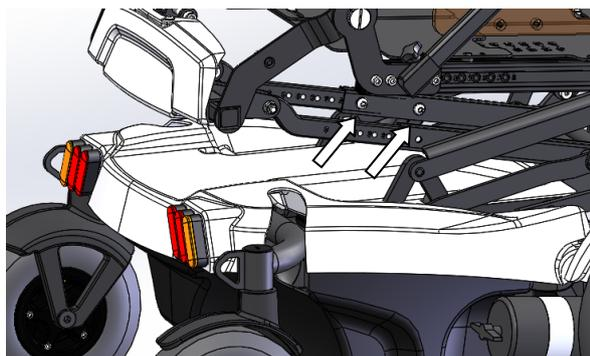

Figure 11 : adjustment depth arm inf. of seat
- Remove the two screws from the bottom seat bar (see Figure 11) on both sides of the chair.